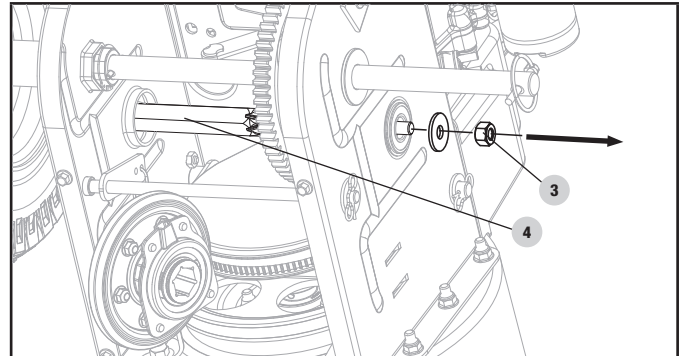

Figure 34A
4. Carefully remove the M10 hex nut (3) which secures the hex shaft (4) to the snowblower frame and lightly tap the shaft's end to dislodge the ball bearing from the right side of the frame (Fig. 34A).